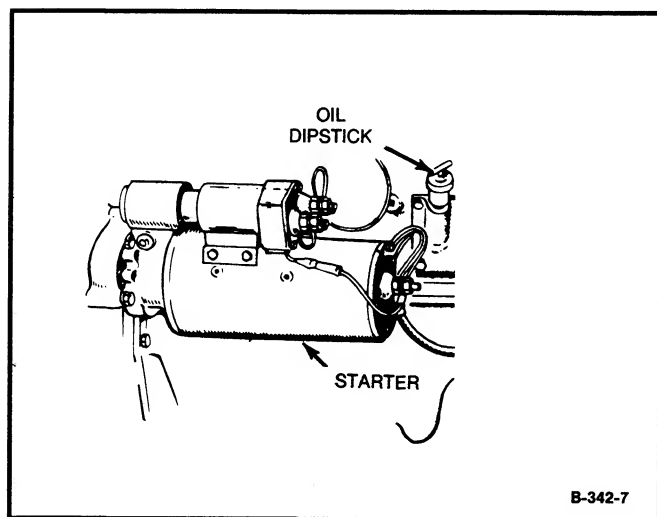

FIGURE 6-3. OIL DIPSTICK LOCATION
2. Fill crankcase to "L" (low) mark on dipstick (see Figure 6-3) and refer to *Maintenance—Lubrication System* section.